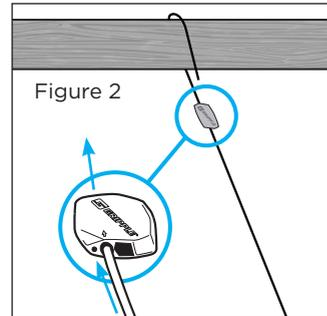

Figure 2
1. Thread Gripple onto cable. Pass over ceiling anchor point or through other secure anchor point of the building structure. Installer is responsible for ensuring that anchor point is secure to building structure (see Figure 2).